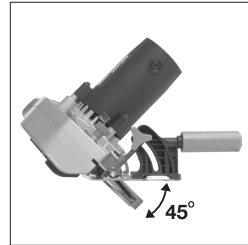

Fig. 8
- Tilt the saw body to the required angle (**Fig. 8**).